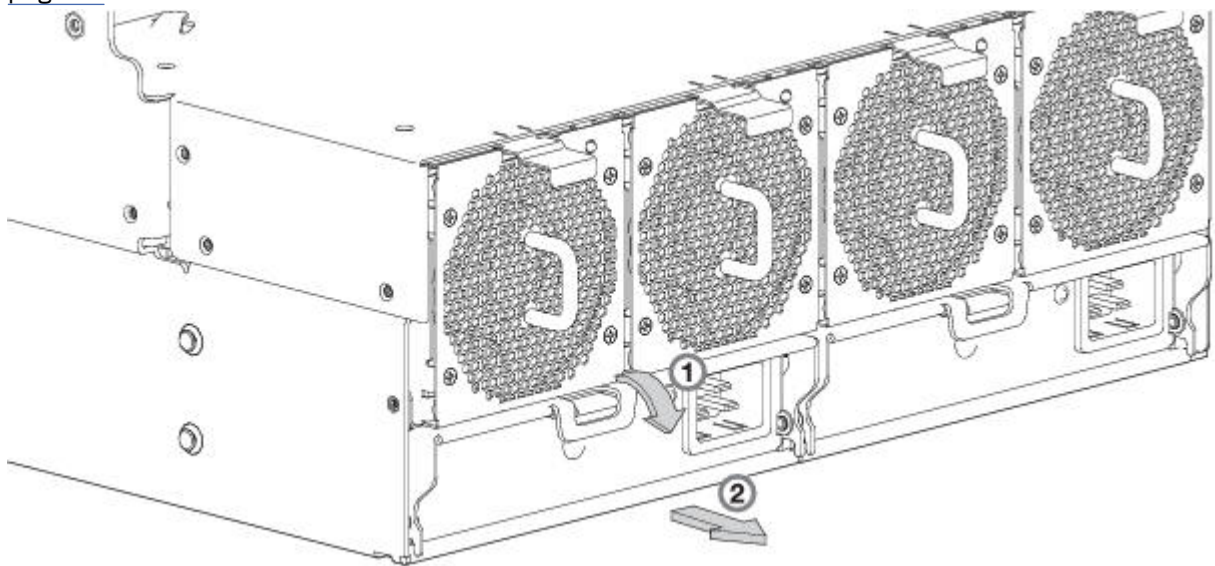
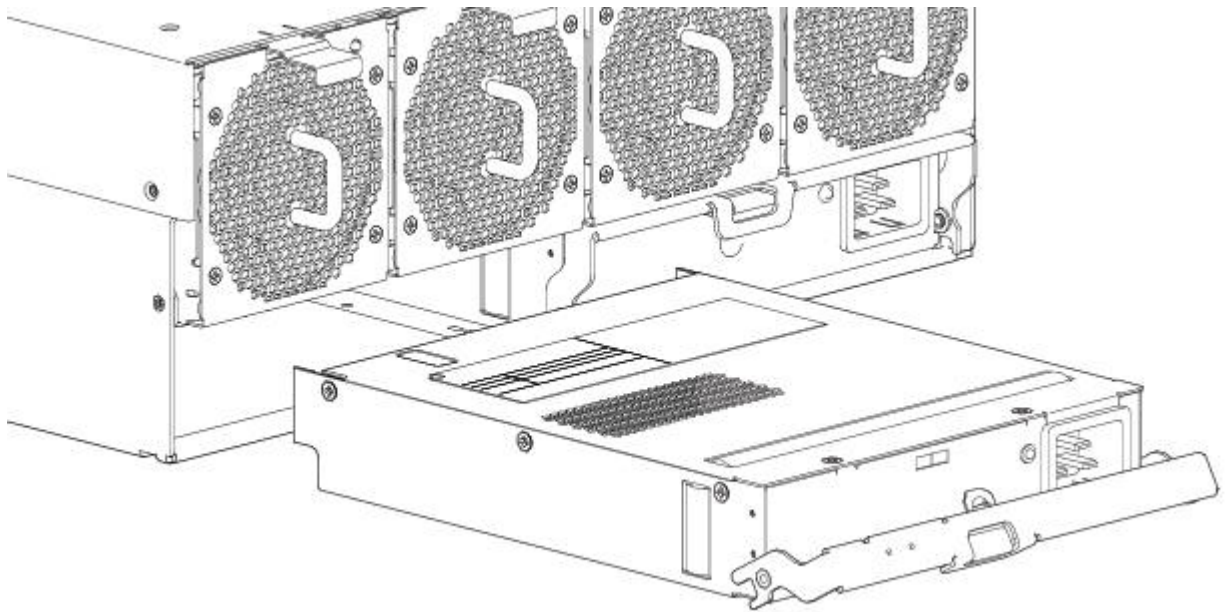

Figure 62. Removing a PSU (1 of 2)
Figure 63. Removing a PSU (2 of 2)
Revolve the handle out and downward to cam the PSU out of the enclosure as shown in Figure 62 on page 69.
8. Grip the handle and withdraw the PSU, taking care to support the base of the module with both hands as you remove it from the enclosure as shown in Figure 63 on page 70.
Refer to Figure 62 on page 69 and Figure 63 on page 70 when performing this procedure, but ignore the directional arrow—since you will insert the module into the slot—rather than remove it.